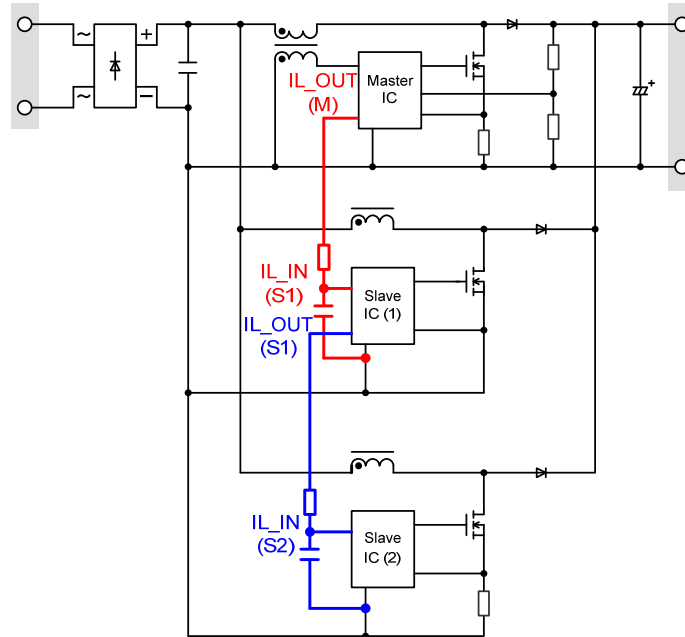

Fig. 8 Example of interleaved connection
The IL_OUT(M) pin of the master IC is a signal output pin that activates interleaving by a slave IC. The IL_OUT(M) pin is connected to the IL_IN(S1) pin of the slave IC. As shown in Fig. 8, for multi-phase interleaving of three or more phases, the IL_OUT(S1) pin is connected to the IL_IN(S2) pin of the next slave IC. To reduce noise, insert a resistor and a capacitor near the IL_IN pin. We recommend a 1 k Ω resistor and a 47 pF capacitor.
- 1) The OUT (M) of the master IC outputs a Hi signal determined by the negative edge of the Z/C pin and the COMP pin voltage.
- 2) The IL_OUT(M) signal of the master IC is output in sync with the OUT(M) (waveform C and arrow 1).
- 3) The IL_OUT(M) signal of the master IC is input to the IL_IN(S1) pin of the slave IC via CR as shown in Fig. 8 (waveforms C and D and arrow 2). In the slave IC (1), the counter circuit stores the ON range of the IL_IN(S1).
- 4) The OUT(S1) of the slave IC (1) is turned on when the master IC is turned off to output the stored ON range. The ON range is the same as that of the OUT(M) (waveform E and arrow 3).
- 5) The IL_OUT(S1) signal of the slave IC (1) is output in sync with the OUT(S1) (waveform F and arrow 4).
- 6) To achieve multi-phase interleaving, connect the IL_OUT(S1) pin to the IL_IN(S2) pin of the next slave IC (2) (waveform F and arrow 5).